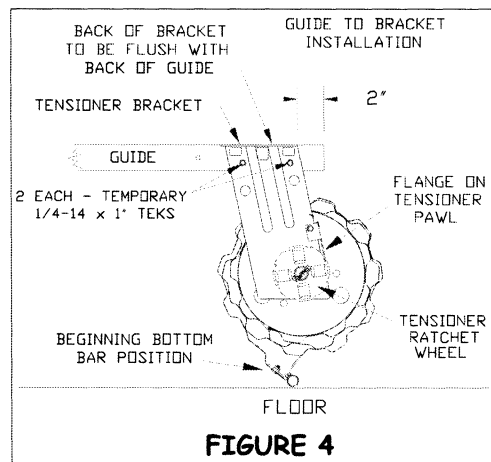

FIGURE 4
- B. At tensioner end of door, lift flange on tensioner pawl until end of the pawl clears the tensioner ratchet wheel. Rotate bracket in order to position short leg end upward. Release flange on pawl and allow end to engage with the nearest tooth on the ratchet wheel. See figure 4.